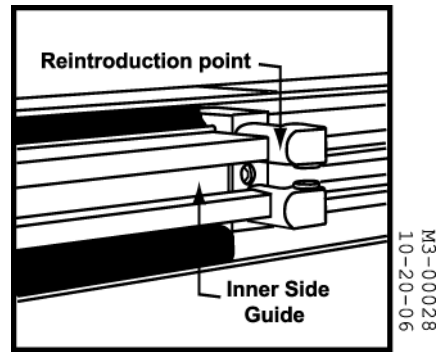

Figure 2-9: Aligning the Inner Guide
6. Align the inner guides with the reintroduction points. See Figure 2-9.